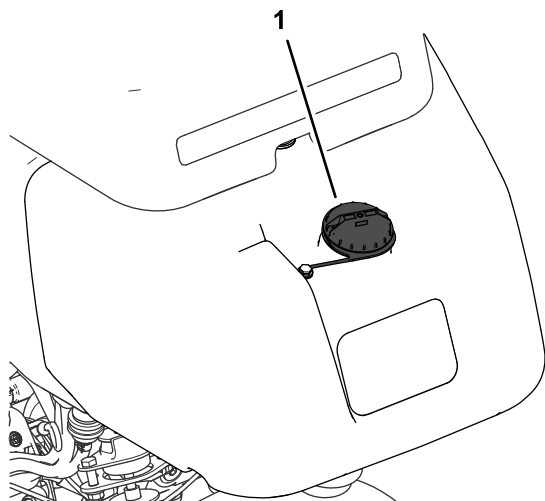

Figure 26
1. Clean around the fuel-tank cap and remove it (Figure 26).